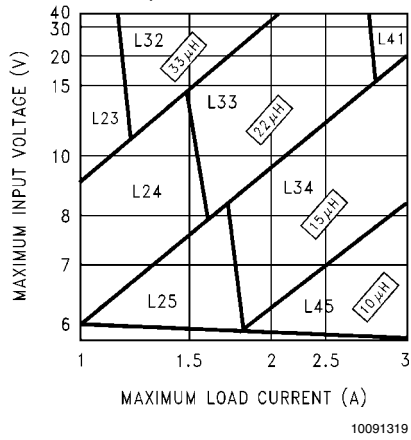
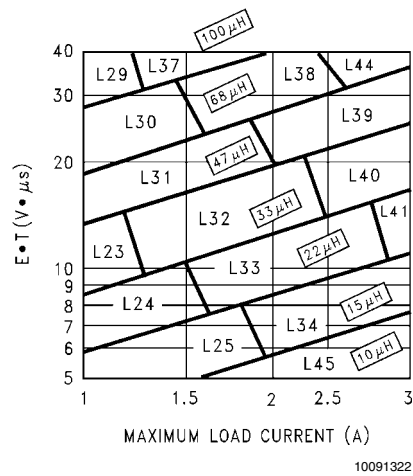

FIGURE 3. LM2673-3.3
FIGURE 6. LM2673-ADJ
Step 3: Determine the inductor required by using one of the four nomographs, *Figure 3* through *Figure 6*. Table 1 provides a specific manufacturer and part number for the inductor.
Step 5: Determine an input capacitor from Table 4 for fixed output voltage applications. Use Table 2 to find the specific capacitor type. For adjustable output circuits select a capacitor from Table 2 with a sufficient working voltage (WV) rating greater than $V_{in\ max}$, and an rms current rating greater than one-half the maximum load current (2 or more capacitors in parallel may be required).
Step 3: Use the nomograph for the 3.3V device, *Figure 3*. The intersection of the 16V horizontal line ($V_{in\ max}$) and the 2.5A vertical line ($I_{load\ max}$) indicates that L33, a 22 μ H inductor, is required.
Step 3: To use the nomograph for the adjustable device, *Figure 6*, requires a calculation of the inductor Volt•microsecond constant ($E \cdot T$ expressed in $V \cdot \mu s$) from the following formula:
Using *Figure 6*, the intersection of $27V \cdot \mu S$ horizontally and the 2A vertical line ($I_{load} \text{ max}$) indicates that L38, a $68\mu H$ inductor, should be used.
Important Note: When using the adjustable device in low voltage applications (less than 3V output), if the nomograph, *Figure 6*, selects an inductance of $22\mu H$ or less, Table 6 does not provide an output capacitor solution. With these conditions the number of output capacitors required for stable operation becomes impractical. It is recommended to use either a $33\mu H$ or $47\mu H$ inductor and the output capacitors from Table 6.